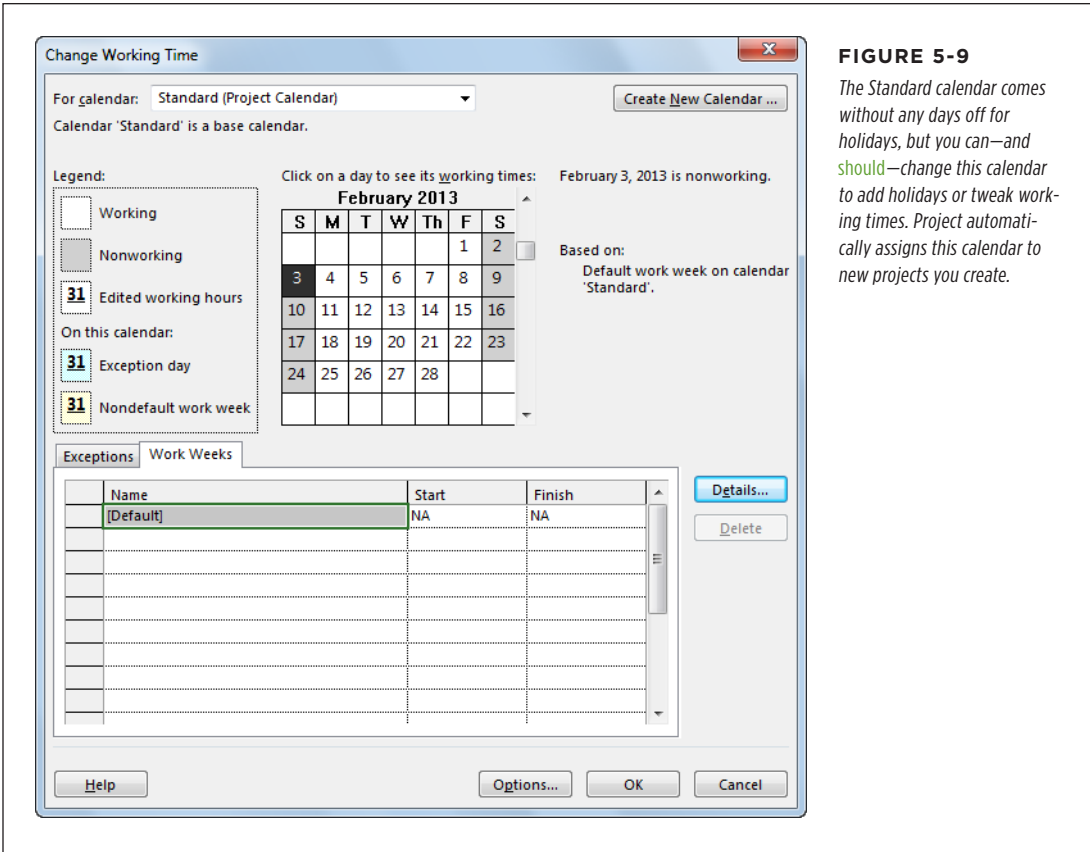

FIGURE 5-9
- **Standard.** Sets working time to Monday through Friday from 8 a.m. to 5 p.m. with an hour for lunch from 12 p.m. to 1 p.m., shown in Figure 5-9.